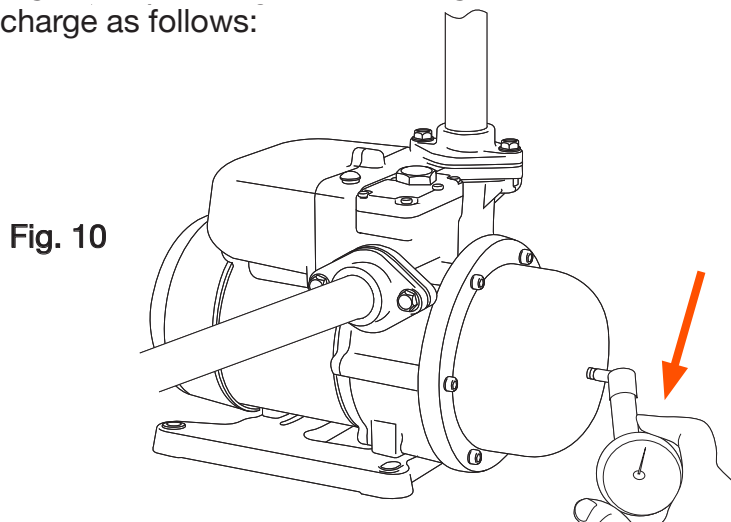

Fig. 10
4. Pressure Tank air charge should be checked at regular intervals of every 6 months and after the pump has not been used for a prolonged period. To check the Pressure Tank air pressure, turn off the power, open a tap on the discharge line to release pressure from the pump, unscrew the black plastic cover and apply an accurate pressure gauge to the valve as shown in Fig. 10. Pressure should be adjusted to the original pre-charge as follows: